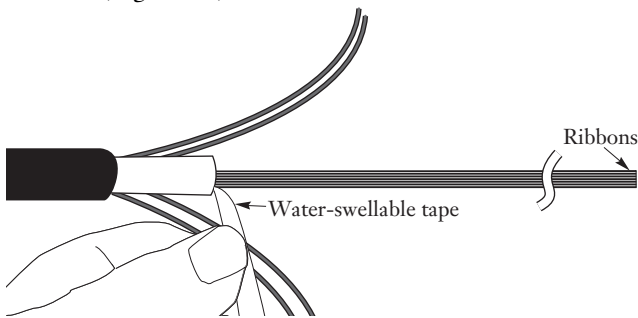

Figure 14
5.3 Carefully separate the water-swellable tape from the ribbons (Figure 14).